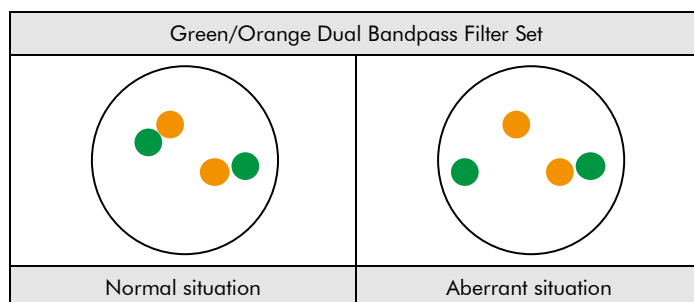

Fig. 2: Expected results in normal and aberrant nuclei
**Normal situation:** In interphases of normal cells or cells without a translocation involving the ZNF384 gene region, two green/orange fusion signals appear (see Fig. 2).
**Aberrant situation:** One ZNF384 gene region affected by a translocation is indicated by one separate green signal and one separate orange signal (see Fig. 2).